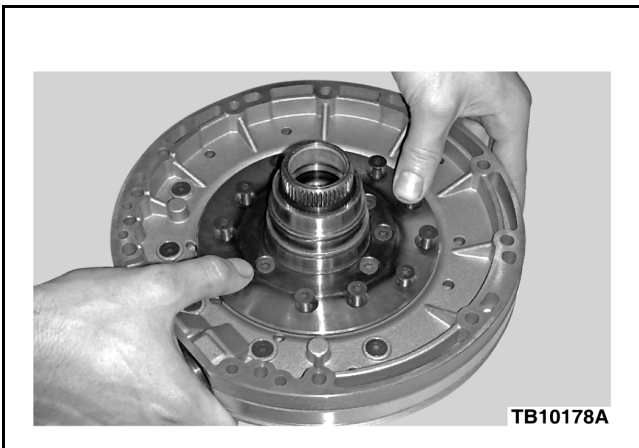

Figure 3 - Article 12-11-14
17. Loosen all 11 pump body-to-pump assembly fasteners and carefully push down on the loosened fasteners to remove pump and gear assembly and discard. (Figure 3)